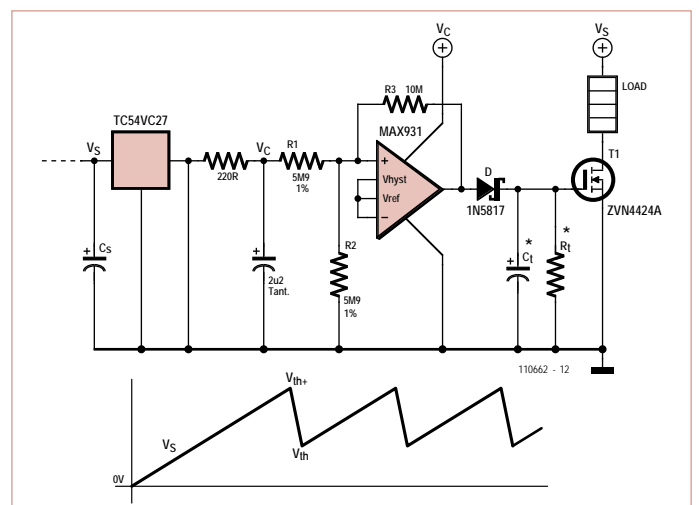

Figure 2. Schematic diagram of the energy-efficient voltage monitor. All semiconductor components are available as SMD and through-hole types.
**Figure 2** shows a better solution. The TC54VC27 is a voltage detector. This little three-terminal IC consumes less than  $1\ \mu\text{A}$  as long as the supply voltage is below the built-in threshold voltage (2.7 V), which is the situation during the vast majority of the charging cycle.